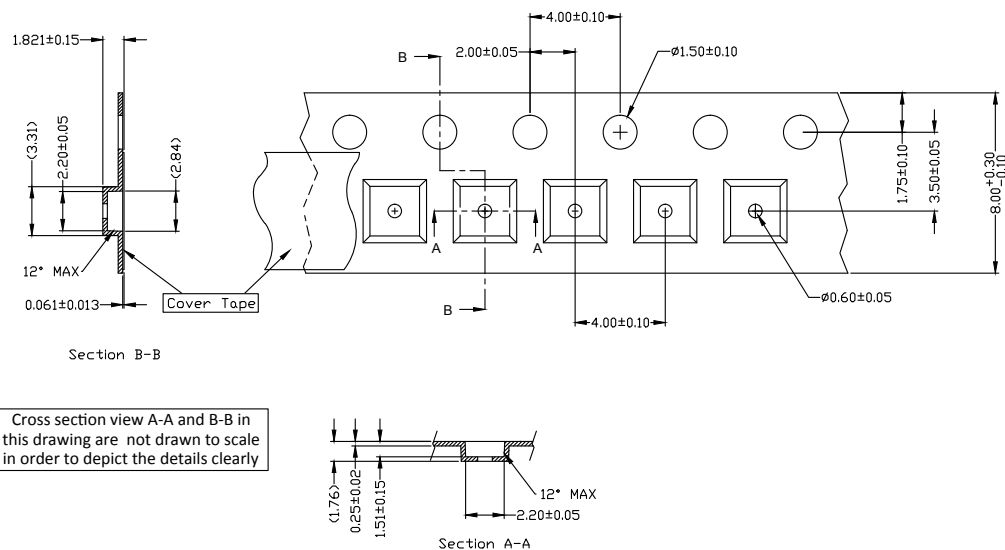

Figure 15. Pocket Tape dimensions for LUXEON C Color Line.
Notes for Figure 15:
- Notes for Figure 15: